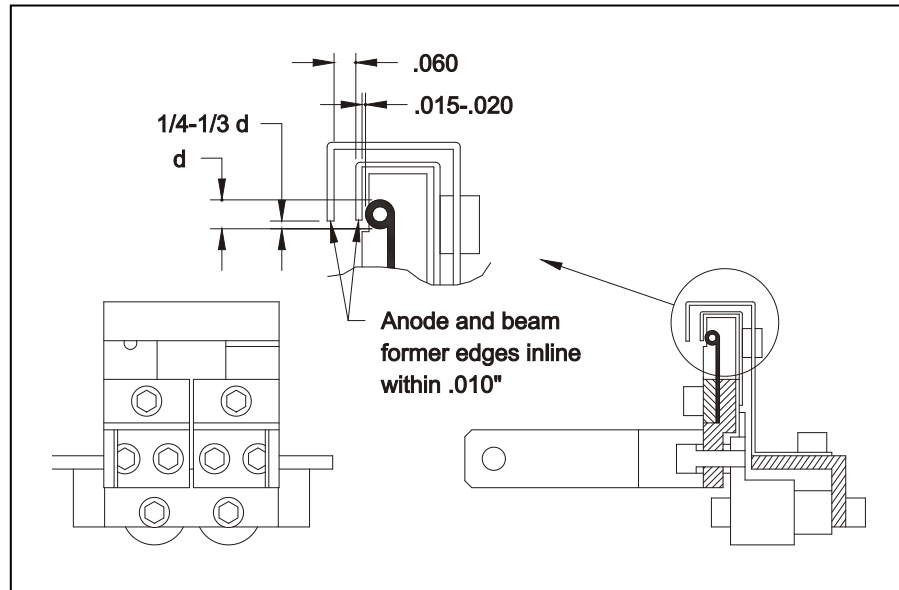

Figure 2-A Filament Location
If the emitter is disassembled refer to 213-0150-1 or 213-0150-3(UHV) pdf drawing and figure 2-A. Ninety percent of system problems during production relate to the EB-source emitter, so close attention to its assembly is of the utmost importance to trouble free runs.
- 2** Relative position of anode plate, beam former and filament must be precise to .005". Anode plate (outer shell) must not be bent forwards or backwards. (Refer to Figure 2-A) The filament (coils forward!) normally projects 1/3 of its diameter or slightly less below beam former. Clearance between these three elements should be judged, based on performance, with a well calibrated, experienced eye. The source will only work properly if these clearances are properly maintained.
- 9** Install the new filament making sure that the filament orientation is correct (see figure 2-A). Use new #6 x 1/4" screws, loosely mount the filament clamps in place. Gently tap the emitter assembly on a flat surface to settle the filament in place. Slide the filament clamp on the right cathode block until it is flush with the right side of the block. Snug the right #6 x 1/4" screws. Gently push the left hand clamp into place. NOTE: Sliding this clamp can cause the filament to warp or bow. Snug the left #6 x 1/4" screws. Now check the alignment of the filament to the beam former.
- 13** Push down on the Anode, tighten the last two #6 x ¼ screws. Now check the alignment of the Anode to the beam former (see figure 2-A).